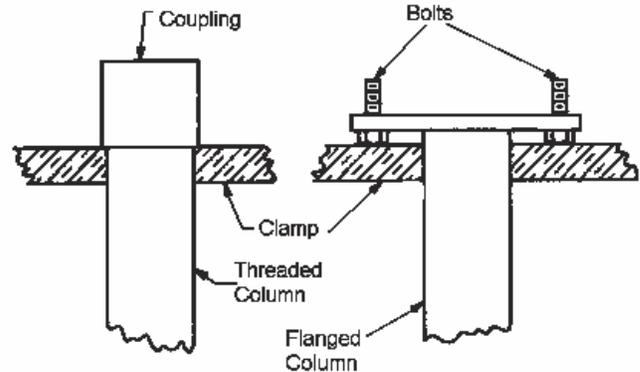

Figure A5.3.1
1. Secure pipe clamp immediately beneath column coupling. If column is flanged, insert bolts and secure clamp below bottom of flange. Clamp should keep bolts in position. See Figure A5.3.1.